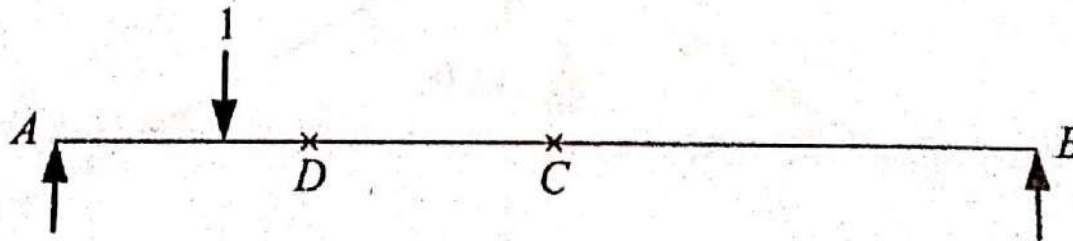

Figure 4: Equivalent Beam
- Where, beam moment means, the moment in an equivalent beam considered only due to vertical forces as shown in Figure 4.